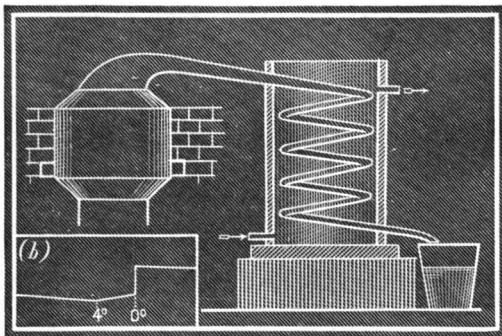

Fig. 19.—Retort, or “still,” and condenser. Plot b—Effect of “cold” upon water.
The law of physics, that "heat expands and cold contracts," does not hold with water in cooling from about 4° (C) to 0° , through which space it steadily expands, until it freezes (crystallizes) at 0° . At the moment of freezing there is a sudden and great expansion. (See Plot b, Fig. 19.) The importance of this exception cannot be overestimated, for it makes *ice lighter than water*, and so prevents lakes and rivers from freezing solid.
Water containing impurities in solution may be purified by **distillation**. The water is placed in a **retort**, or "**still**," is heated, rises as steam (at 100°), which, passing through the **condenser** (supplied with cold water in direction of arrows, Fig. 19), condenses, and is collected in a receiver. Steam ("**dry steam**") is an invisible gas. That which is seen and often miscalled steam is steam condensed (or partially condensed) into minute globules